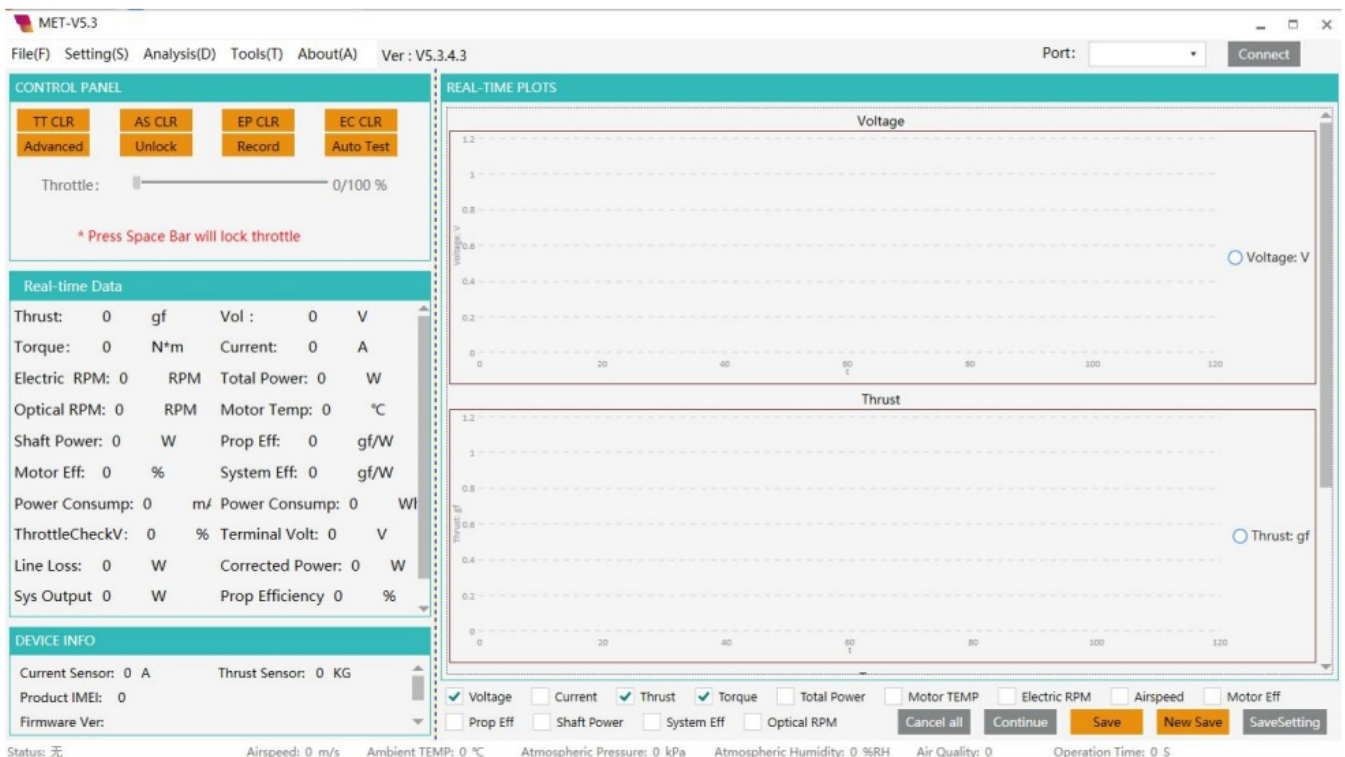

Fig. 3.2.2 Software Connection
(4)Software Connection: Open the software, the user will see COM XX, then click "Connect". Connection succeeded when hearing "Di", as shown in Fig. 3.2.2: